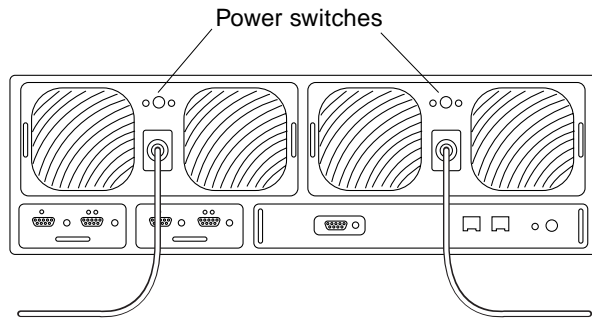

FIGURE 6-9 Power Switch Locations
3. **Press the power button once on each power and cooling unit to turn the switch off (FIGURE 6-9).**